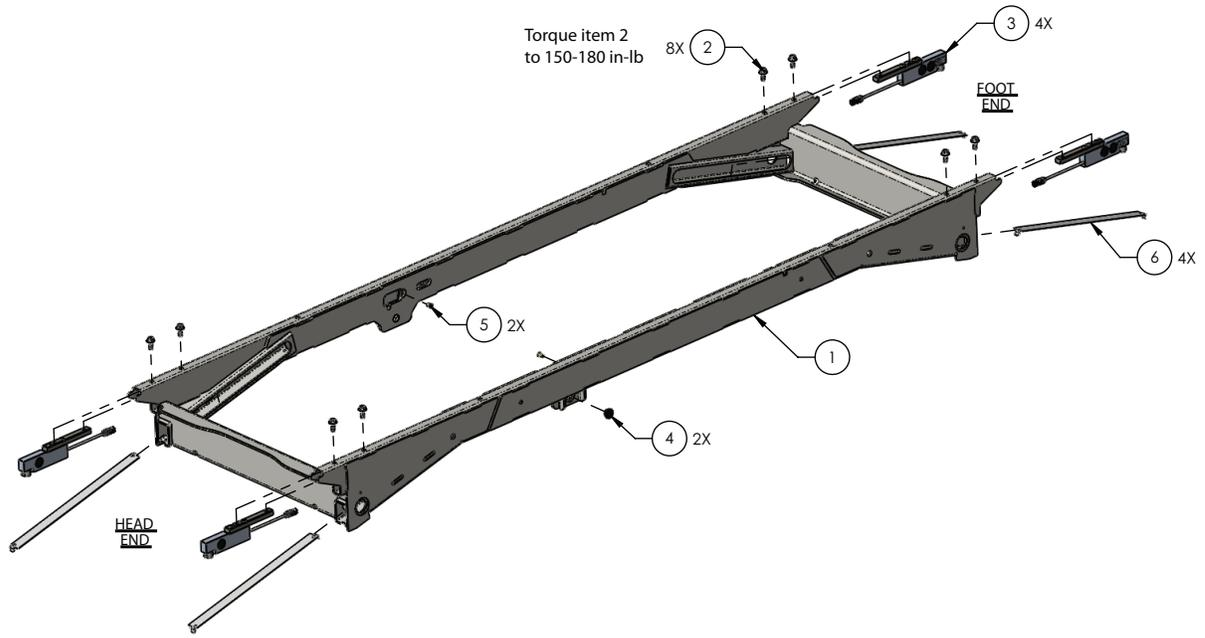

Figure 37 – Load cell assembly replacement
7. Using a small floor jack, near the load cell (3) that you need to replace, raise the lift support tube upward until the weight is removed from the load cell (3) (Figure 37).
9. Using a ratchet and 1/2" socket, remove and save the two bolts (2) that secure the load cell assembly (3) to the base frame weldment (Figure 37).
10. Using needle nose pliers, remove the load cell assembly (3) from the base frame weldment (Figure 37).